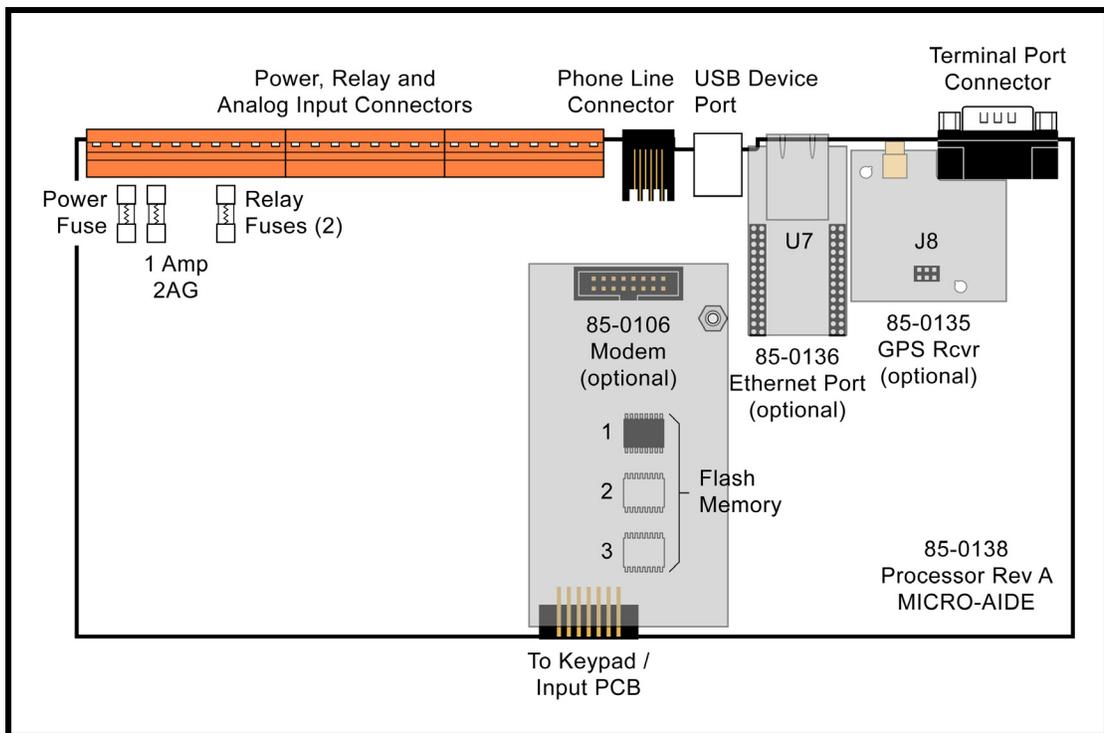

Figure 6 - CWR-72E Processor PCB
2. Locate the 6-pin female socket labeled "J8" located towards the right edge of the Processor PCB. The socket is illustrated in Figure 6 on page 88.
3. Locate the 56-pin female socket labeled "U7" along the upper edge of the Processor PCB. The socket is illustrated in Figure 6 on page 88.
2. Locate the sixteen-pin male header connector located near the center of the Processor PCB. The modem connector is illustrated in Figure 6 on page 88.